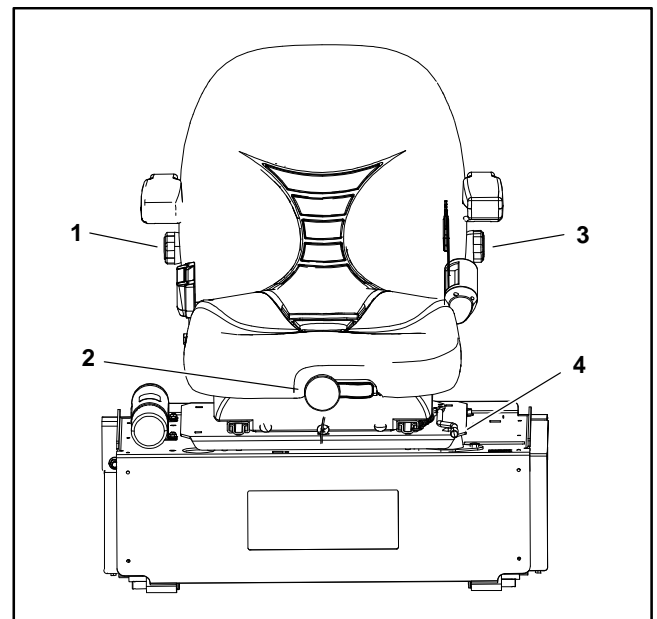

Figure 59
3. Carefully peel label from back rest knob (Fig. 59). Remove nut and knob from seat frame.
4. Remove six (6) clips that secure back cushion to seat frame. Remove back cushion.
5. Remove two (2) cap screws that secure bottom cushion to seat frame. Remove bottom cushion.
7. Remove eighteen (18) clips from seat frame to separate seat boot from frame.
8. Remove two (2) roll pins that secure bearing shafts to seat frame. Remove bearing shafts and split nylon bushings from frame.